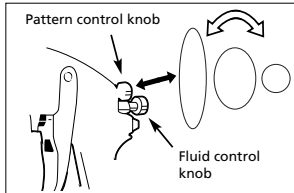

Figure 9 - Pattern Size
2. Set pattern size to desired shape. For full pattern, open pattern control knob by turning counterclockwise. For a round pattern, turn pattern control knob clockwise (See Figure 9).
3. Turn fluid control knob fully clockwise until closed (See Figure 9).